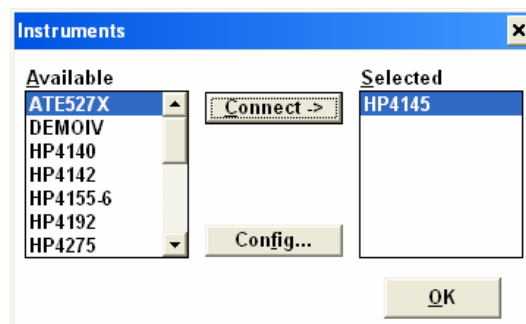

Fig. 2: Selecting the parameter analyzer
4. Now highlight the appropriate instrument (In this case it's the **HP4145**; you may have to choose the **HP4155**, depending on the model of the parameter analyzer at your workstation), and click on the **Connect** button. The name of the parameter analyzer will now appear on the right side of the dialog box (Fig. 2). Click on **OK**.